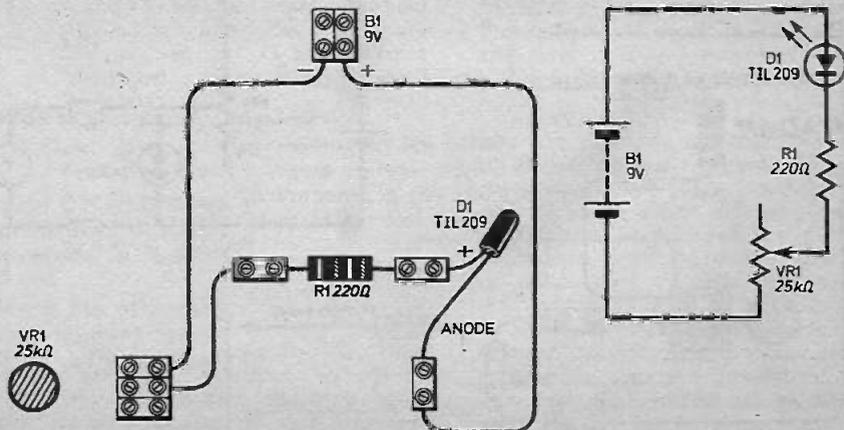

Fig. 5D.1. Component layout and wiring up details for experiment 5D with circuit diagram
1. Connect up the components on the Circuit Deck as shown in Fig. 5D.1. Take great care that the l.e.d. is the correct way round noting that the shorter lead is the anode and must go to the positive terminal of the battery.